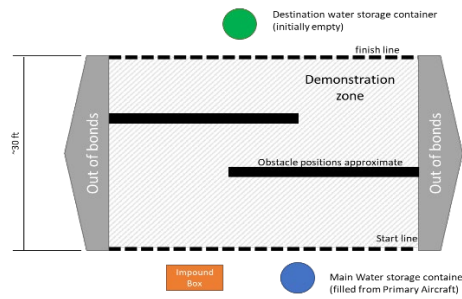

Figure 8-2: Notional Diagram of GTV Demonstration Event. Not to Scale.
2. On one side of the demonstration zone will be the unassembled GTV in the impound box and the team's main water storage container(s). Stationed on the other side of the zone (approx. 30 feet away) shall be the team's empty destination water storage container(s). Containers shall be positioned approximately as shown in Figure 8-2.
3. No more than three (3) team members may take part in the assembly and demonstration, including the GTV driver. Teams may split personnel between the start and destination sides of the area however they choose, but no team member may switch sides during the demonstration.
9. Obstacles will be placed in the demonstration zone approximately as shown in Figure 8-2. The obstacles may be up to three (3) inches in height.